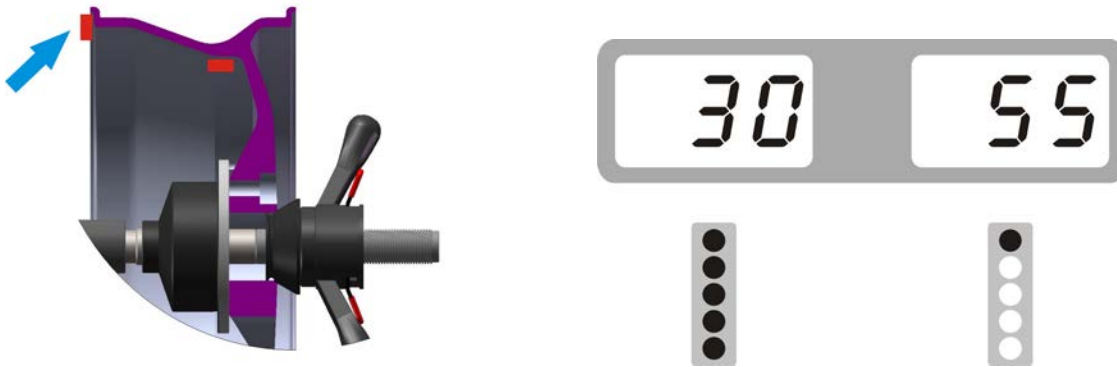

Fig. 7
4.2.6. Anticlockwise moving wheel slowly, the displays with left LED's lit up full indicate the correct angular position where to mount the counterweights, (las=on, las=off) position inside, as Fig.7, add the counterweight.